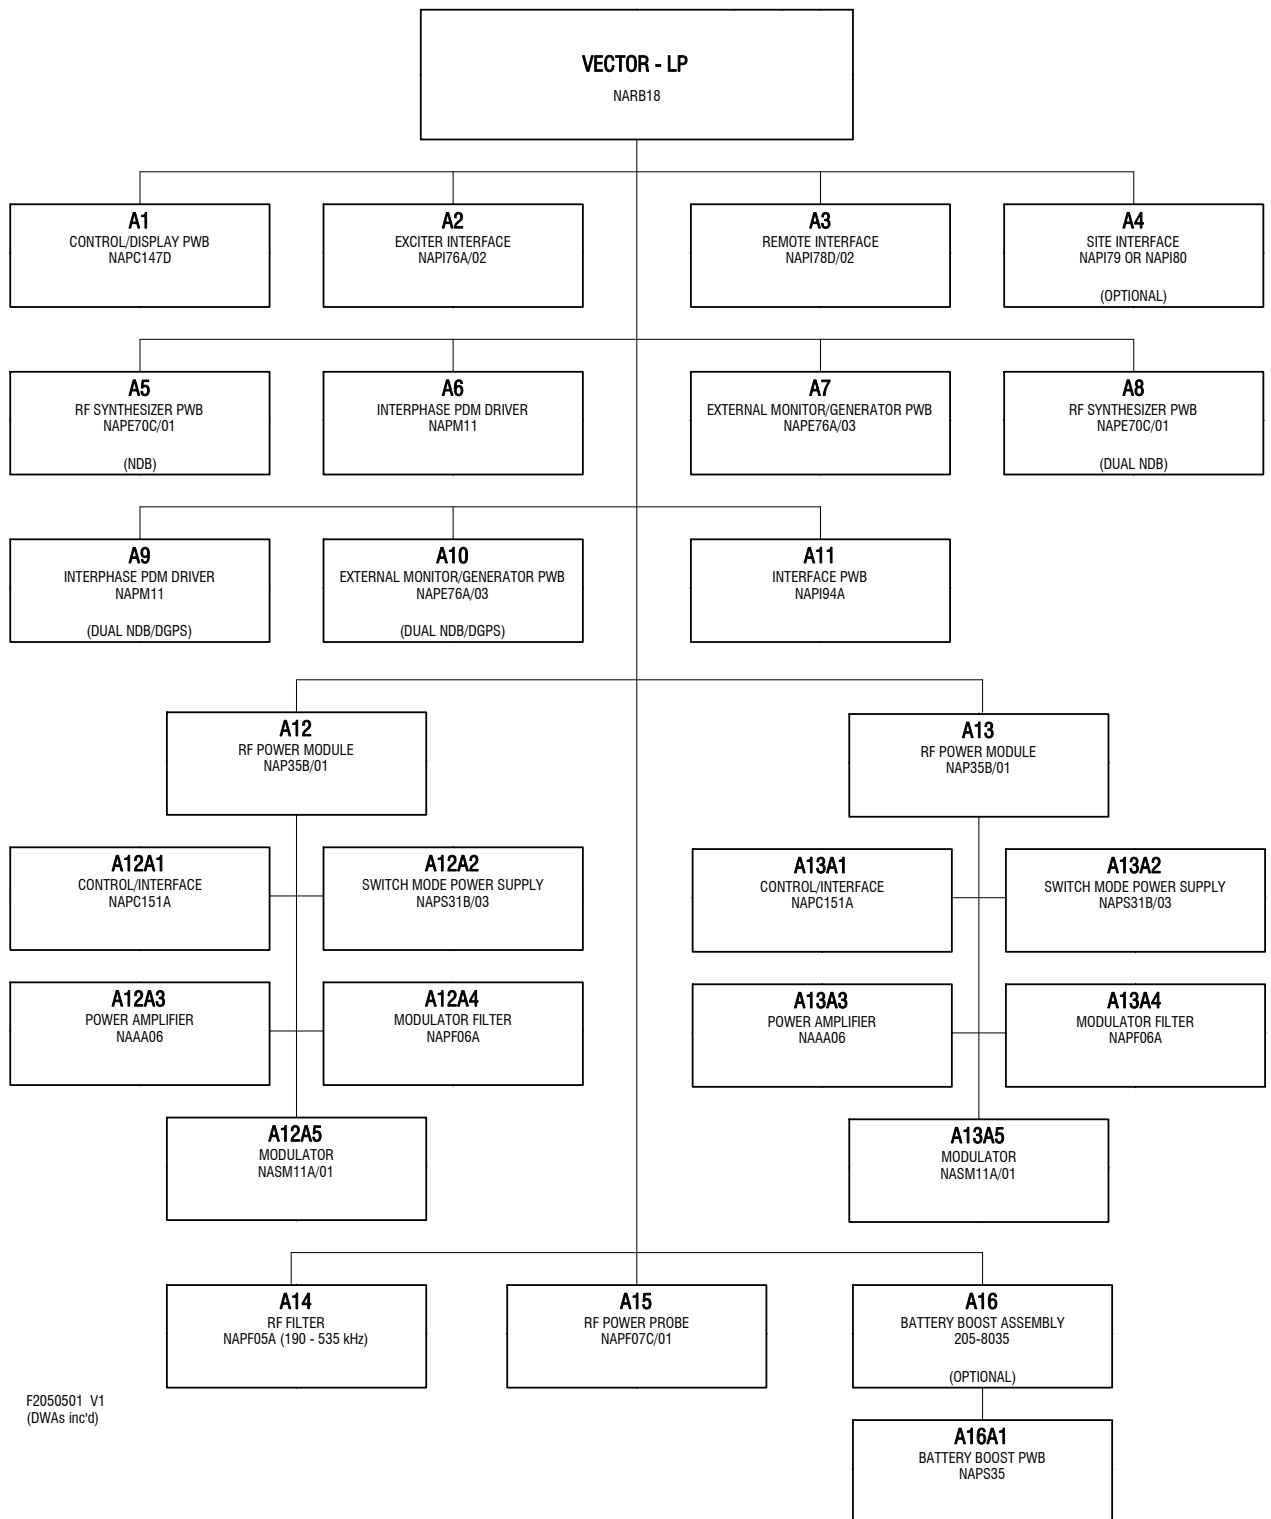

Figure 7-1: Family Tree – Vector-LP Radio Beacon Transmitter
Figure 7-1 depicts the family tree for the subject equipment. It is based on the descending order of the reference designation hierarchy and identifies all assemblies that have an assigned Nautel configuration control number.
- Refer to the family tree depicted in Figure 7-1 with the full reference designation.